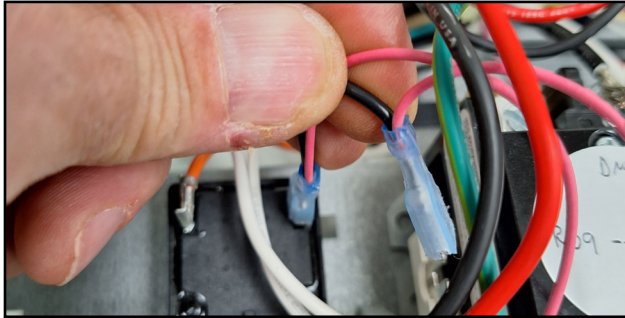

Fig.117
27. Remove the black and pink wire from the left side coil wire. (Fig.117)